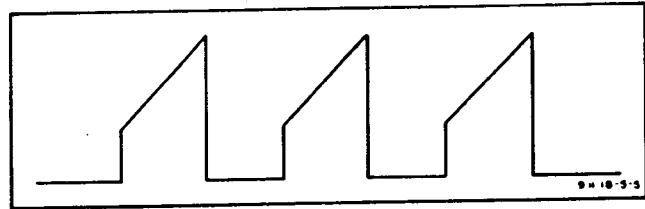

Figure 6-1. TRAPEZODIAL WAVEFORMS.
- e. Measure vertical edges of the trapezoidal waveform on oscilloscope. (See Figure 6-1.)
- g. If percent modulation is not within ± 6 percent, adjust R-154 (see Figure 6-1) until desired percentage is obtained.